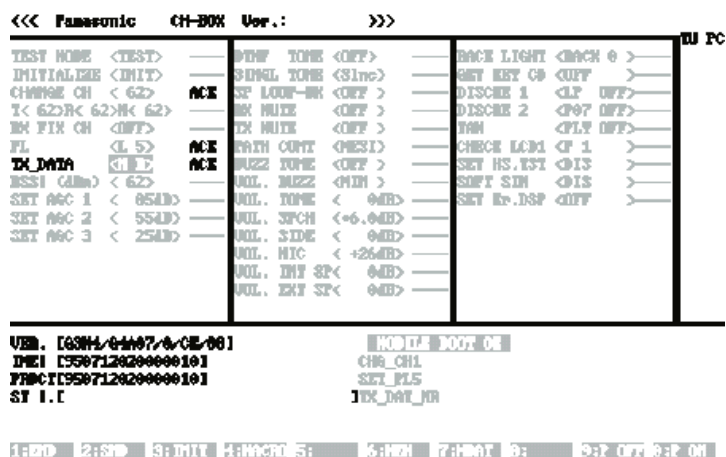

Figure 12: Tx data field
- (Figure 12) Press the down arrow until TX DATA <OFF> is highlighted. Press the move arrow until <NR> appears in the highlighted field. Press ENTER.